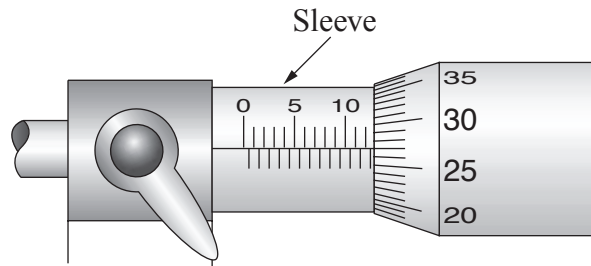

Figure 3 *Engineering - Workbook 3, Copyright(C) 2001 D.A Schlyder*
- (A) The distance between the two wheels
- (B) The distance between the bench and the wheels
- (C) The distance between the rests and the wheels
- (D) The distance between the protective guards and the wheels
- 7 Part of a micrometer is shown in Figure 3.
What is the smallest increment that can be measured on the sleeve of the micrometer shown in Figure 3?